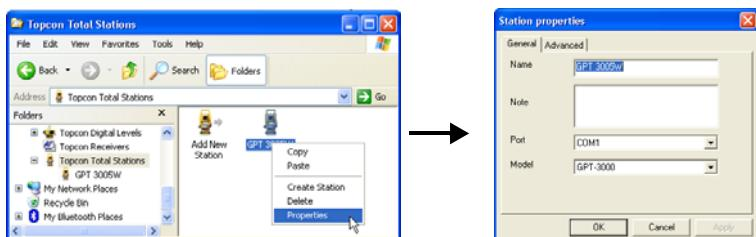

Figure 2-21. Changing Total Station Properties
4. A new icon for the Total Station displays in the right panel (Figure 2-21), and a new sub-folder will be created in the *Topcon Total Stations* folder of Windows Explorer. To change the properties (communication parameters, name, model, and so on) for this Total Station, right-click on the icon and select *Properties* on the pop-up menu. The **Station Properties** dialog box for the Total Station is identical to the **Create Station** dialog box for the new Total Station.